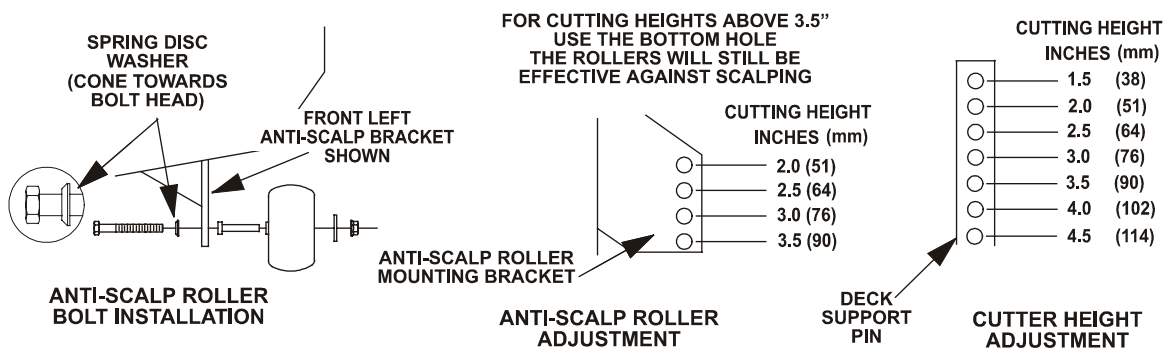

FIGURE 13
- c) Look through the round hole in the left rear corner of the engine deck to inspect PTO clutching belt tension. Bolt on PTO engagement linkage bellcrank and indicator arm should align within 1/16" (See figure 13). Refer to section 5.2.2 for adjustment.
- b) Install hairpin clips in the holes shown on sketch below for the desired cutting height (See Figure 13).
- c) Adjust anti-scalp rollers for Normal Operating Conditions. Stop engine. Place rollers in one of the positions shown in Figure 13. Rollers will maintain 3/4 in. (19 mm) clearance to the ground to minimize gouging and roller wear or damage. **For Maximum Deck Flotation**, place rollers one hole position lower. Rollers should maintain 1/4 in. (6.4 mm) minimum clearance to ground. **Do Not** adjust rollers to support the deck. Be sure roller bolts and nuts are installed with the spring disc washer between head of bolt and mounting bracket. **Torque to 40-45 ft-lbs., or loss of roller may result.**
- d) When operating in extremely rough conditions it may be necessary to position the anti-scalp rollers one or two holes higher than described in "b" to prevent damage to the rollers and/or bolt failure (See Figure 13).